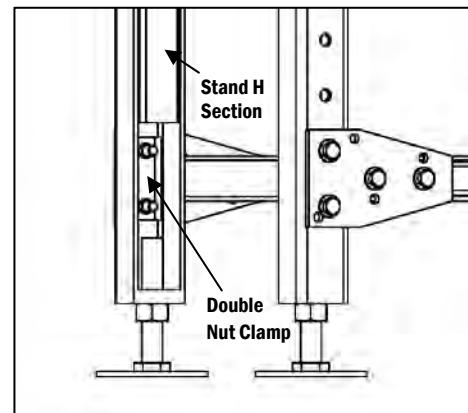

Figure 3
a. To install, the H Section of the stand must first be lifted clear of the mounting holes (Figure 3).